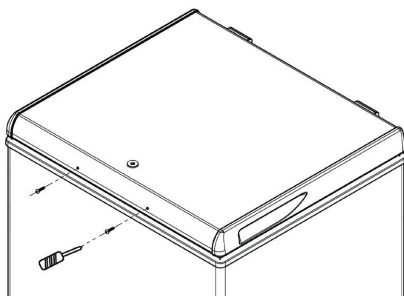

Fig. 1
Step 1: Remove the screws from the front of the freezer door (see Fig. 1).